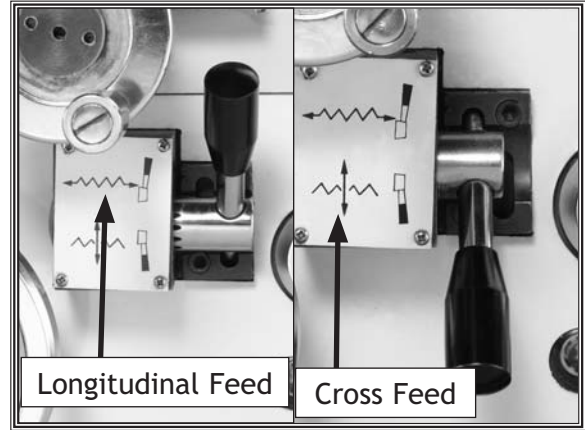

Figure 55. Power feed lever settings.
- 2a. Push the power feed lever shown in **Figure 55** to the left and down to engage the cross feed.